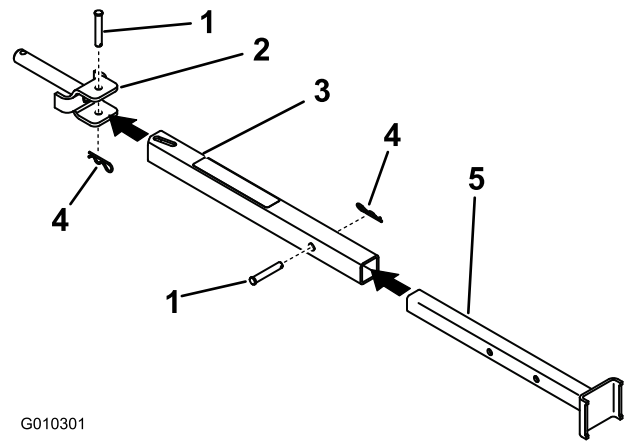

Figure 5
- Install the pivot pin to the outer tube with a clevis pin and hairpin cotter pin (Figure 5).
- Place the foot part of stand into the outer tube. Align holes and secure with a clevis pin and hair pin cotter (Figure 5).